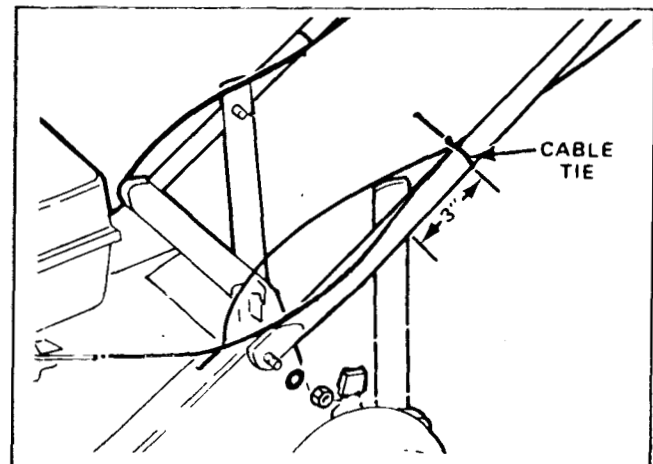

Figure 122
7. Secure the cables to the handle with cable ties in the locations shown in Figure 122.